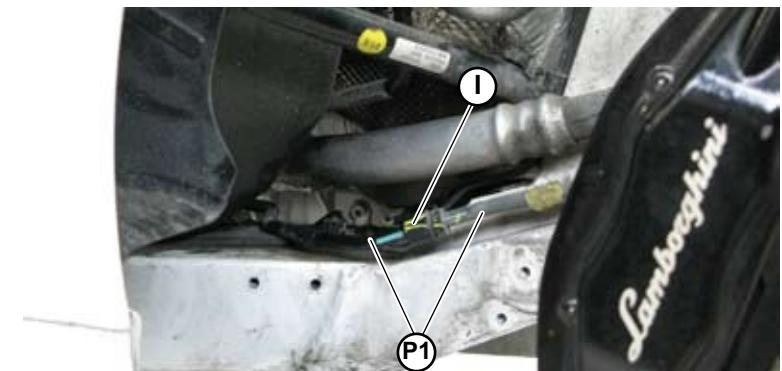

Fig.29
8. Loosen the connection nut (I-Fig.29) to disconnect the front part from the rear part of the **P1** delivery pipe.